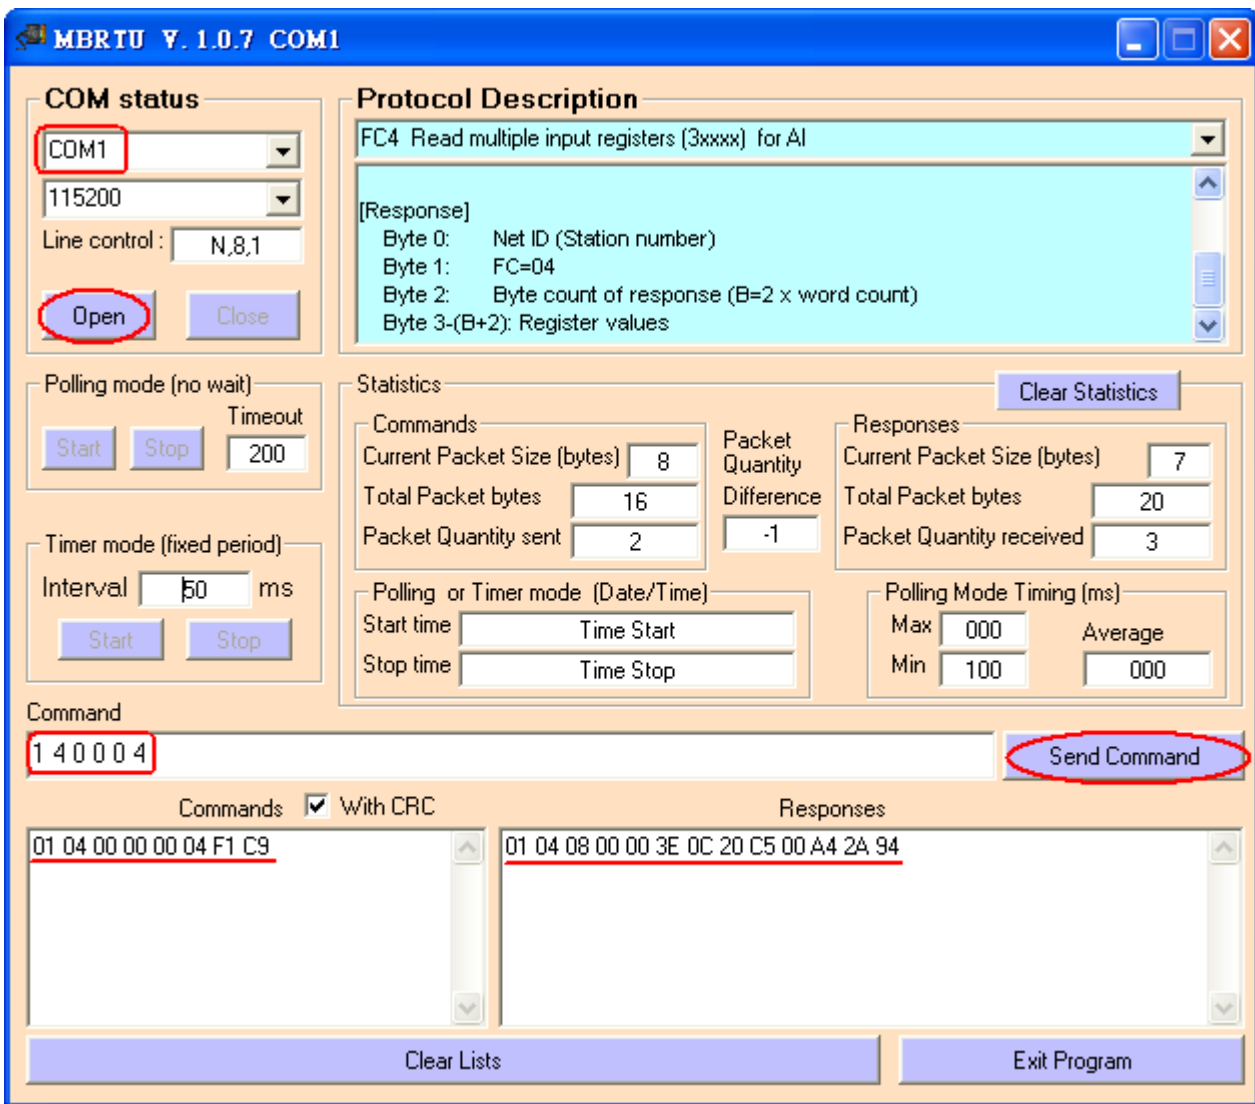

Figure 5-2 Receive HART Command 1 data
(3) Run “MB/RTU” tool. Set the com port settings the same with HART-710 (Baud Rate / Data Bits / Stop Bits / Parity) and then click “Open” button to connect to HRT-710 like Figure 5-2.
(4) Input “**1 4 0 0 0 4**” in “Command” field and click ”Send Command” button to send the modbus command. The HART command 1 data will be received in “Responses” field => “**01 04 08 00 00 3E 0C 20 C5 00 A4 2A 94**” like Figure 5-2.